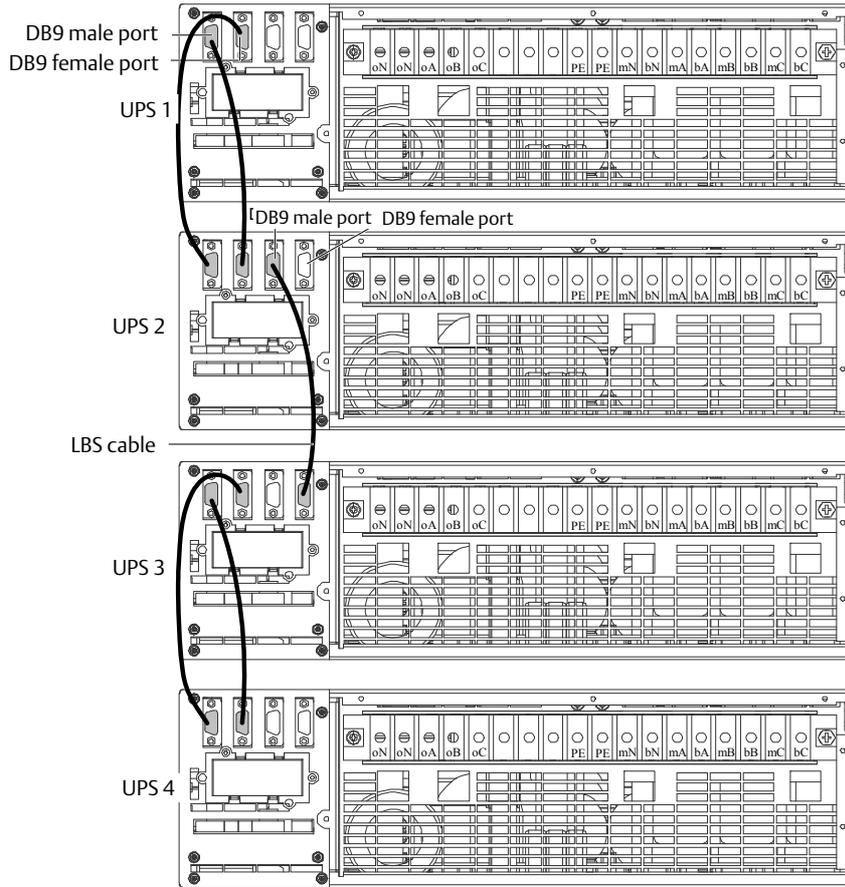

Figure 4-7 LBS cable connection
In double bus system, connect the two ends of the LBS cable to any LBS port of the two parallel systems respectively, as shown in Figure 4-7. The third port on the left is DB9 male port (needle shape), the fourth port on the left is DB9 female (hole shape).
1. The appearances of the LBS ports (see Figure 1-3) and the parallel ports (see Figure 1-3) are the same, but the positions are different. Be careful when inserting and connecting to avoid incorrect connection. 2. For the double bus system formed by parallel UPS, it is recommended to prepare two LBS cables, one is used to connect any of the two LBS ports of the two parallel system, the other is redundant cable which is used for reliable connection. 3. As shown in Figure 4-7, one cable is LBS cable, others are parallel cables.